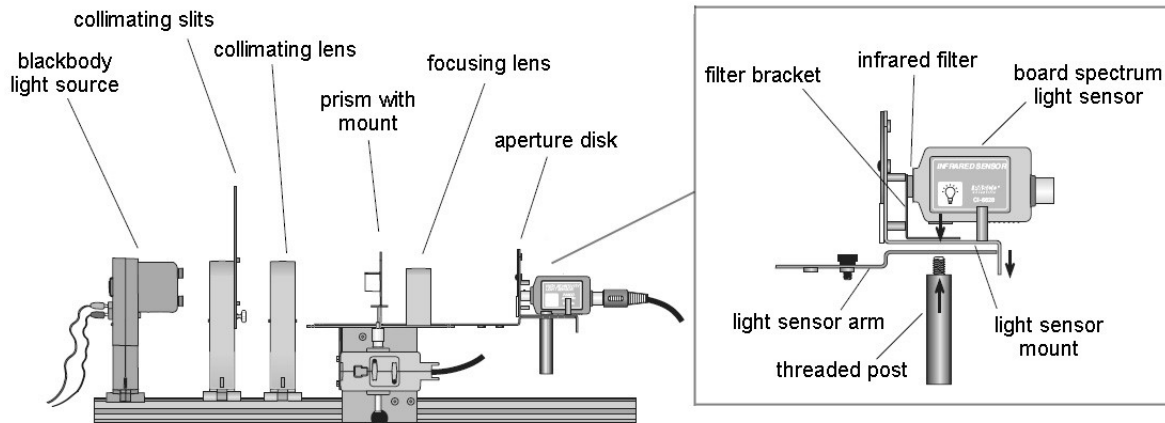

Figure 3 Experimental setup for the measurement of blackbody spectrum
1. Set up the prism spectrophotometer as shown in Fig. 3. Make sure that the infrared filter is installed in front of the light sensor. The filter prevents the light sensor from detecting objects in the lab (such as your hands), but still allows the sensor to detect hotter objects (such as the blackbody light source).